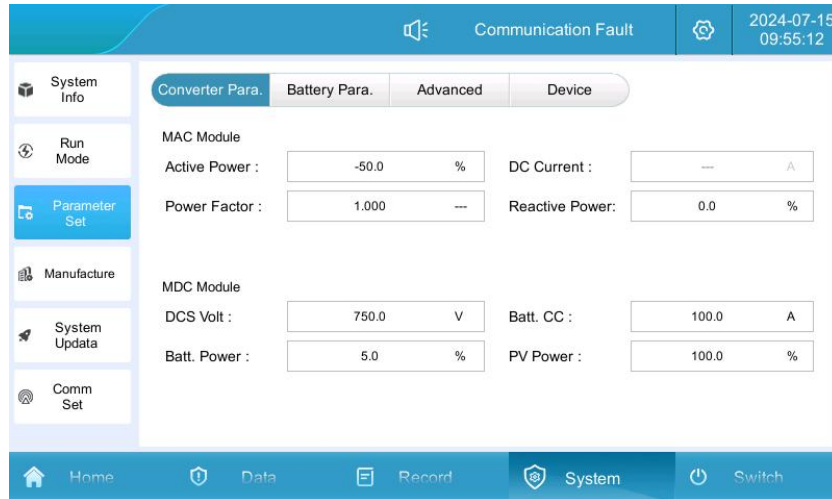

Figure 5.9 Power Setting Screen
2. Set the control mode to "Manual Mode", set the corresponding active power, power factor, and reactive power in the "Parameter Setting" page, and the machine will run according to the set value (positive value is for discharging, a negative value is for charging). The power setting interface is shown in Figure 5.9.